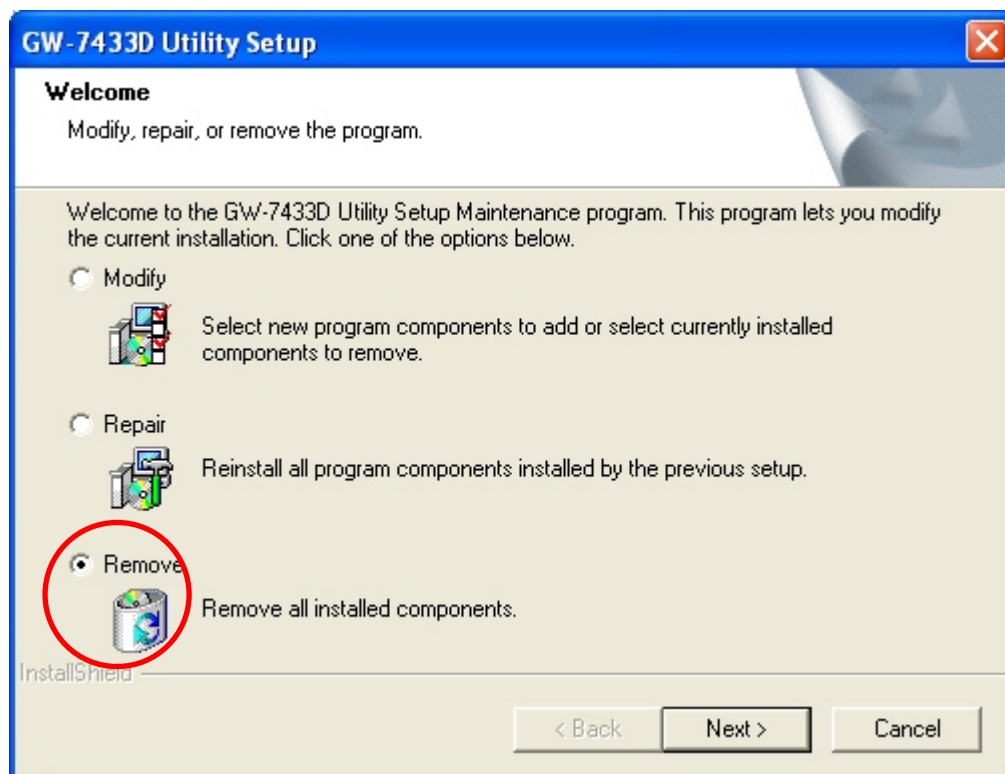

Figure 5-10: “Modify, repair, or remove the program” dialog
Step 4: Select the “Remove” option button, and press the “Next” button to remove GW-7433D Utility. See figure 5-10.